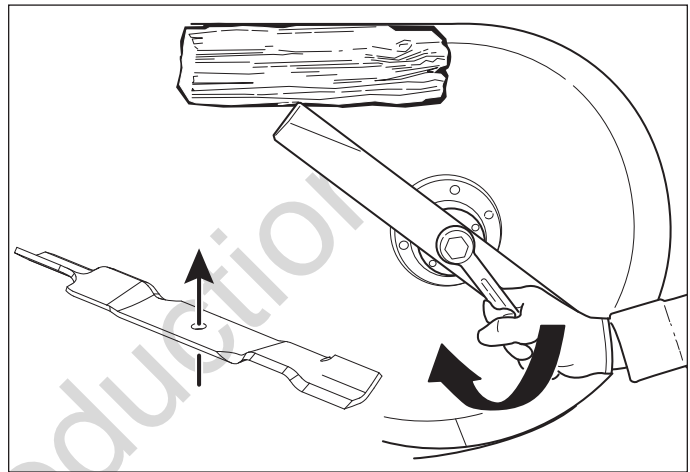

Figure 3. Installing the Mulching Blades
2. Install the new mulching blades using the existing hardware, be sure to install the blades in the correct direction. See **Figure 3**.